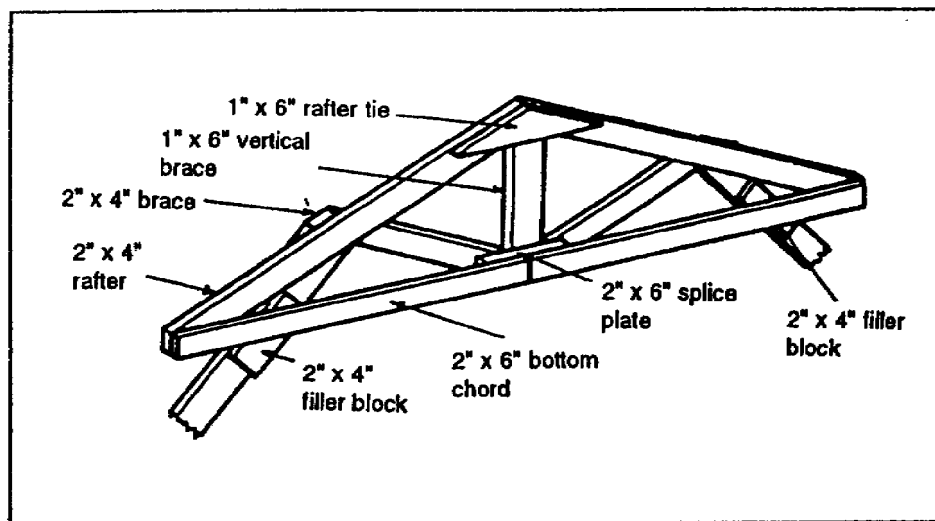

Figure 3-15. Assembling a truss
c. Assembly. Rafters are usually made into trusses. Two rafters are connected at the top, using a collar tie well nailed into both rafters. Before any ties or chords are nailed, the rafters should be spread at the lower end to equal the width of the building. This is done by using a template or by measuring the distance between the seat cuts with a tape (see Figure 3-15).